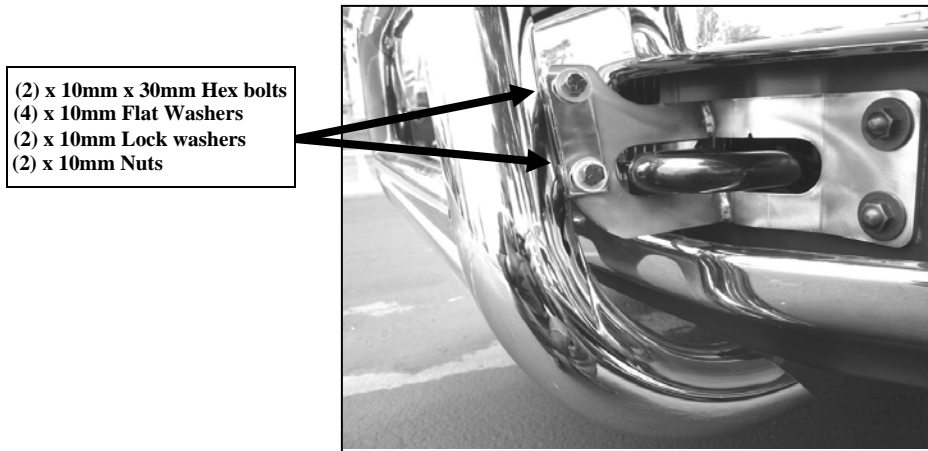

Figure 4
6. With help position Bull Bar on the outer side of Mounting Brackets. Attach Bull Bar to Mounting Brackets using the included (4) 10mm Hex Head Bolts, (4) 10mm Nuts, (8) 10mm Flat washers (4) Lock Washers (Figure 4). Donot tighten at this time.